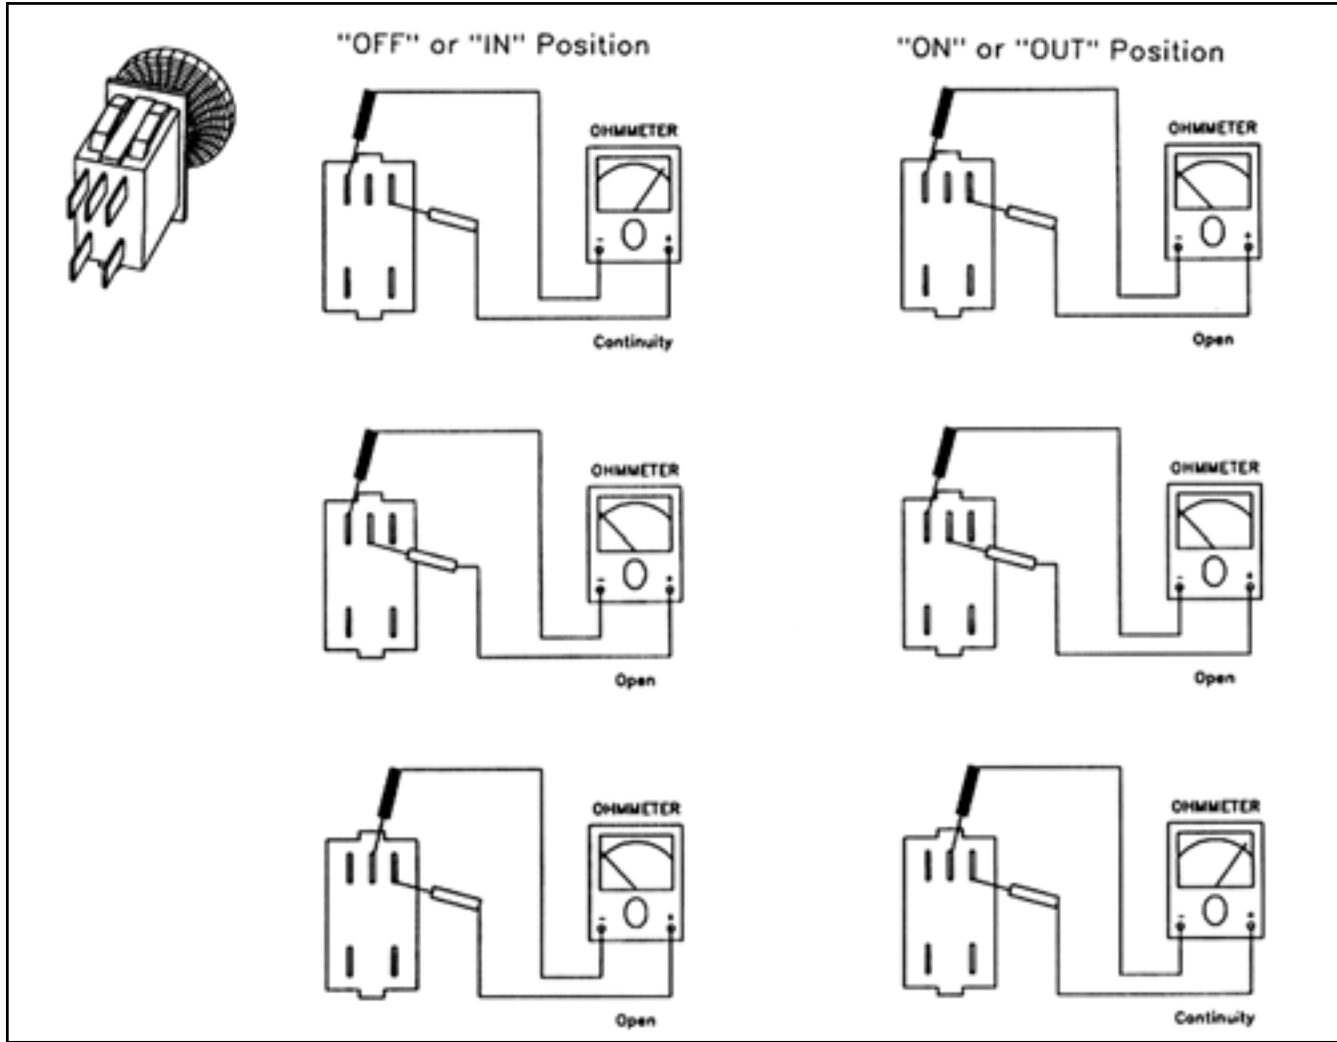

Figure 86
4. Verify that there is continuity between the appropriate terminals in the ON and OFF positions (Figure 86).
5. Replace the switch if your test results do not correspond with those given in Figure 86.